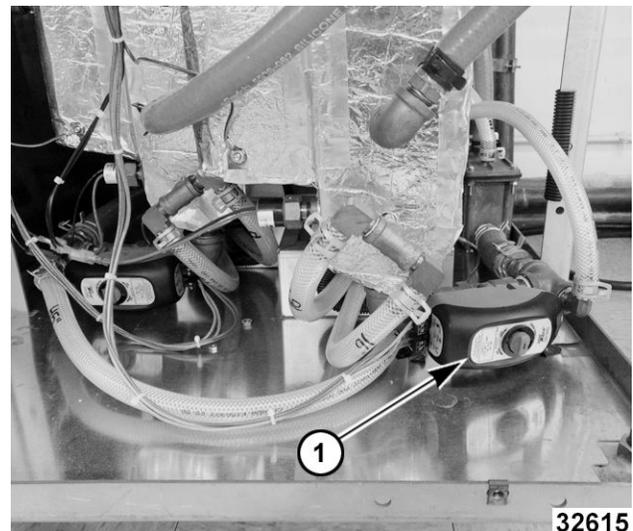

Fig. 32
4. Locate the motorized drain valve (1, Fig. 32) found at lower right side of steam generator tank.